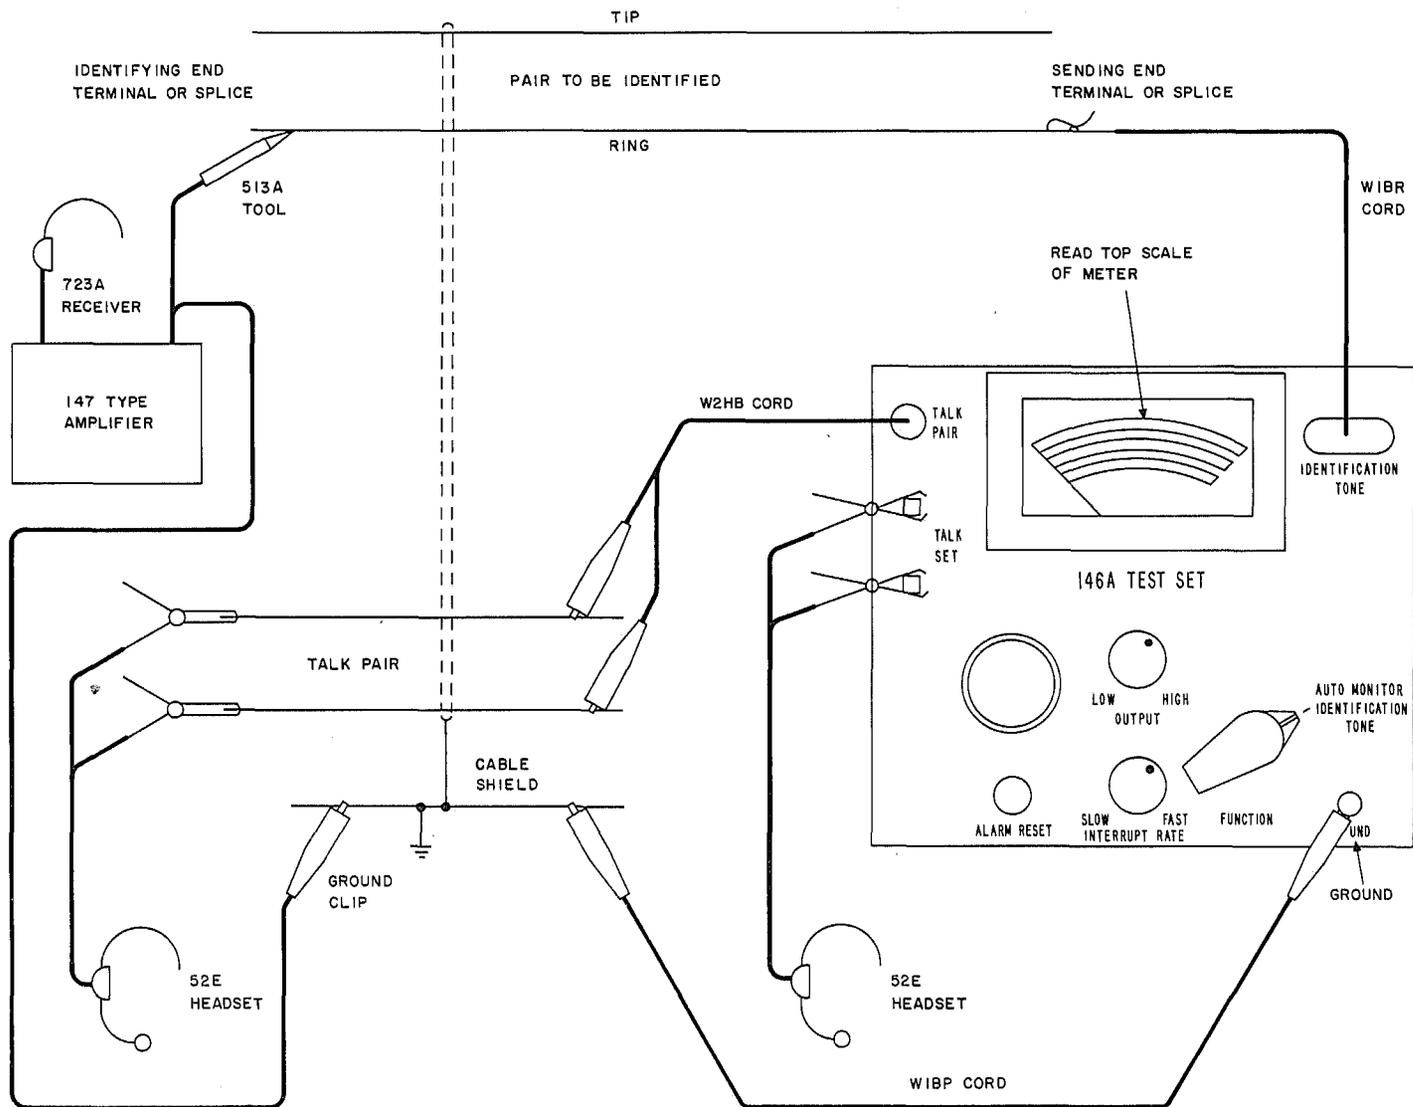

Fig. 8—Wire Identification in Subscriber Circuits
- 5.01 Refer to Fig. 8. Establish a talking circuit as described in Part 4.